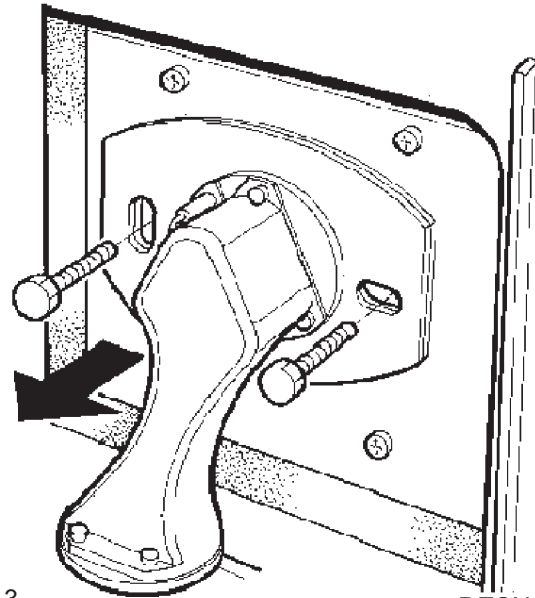

Fig. 3
5. Unscrew burner locking nuts (2). (See Fig. 3)